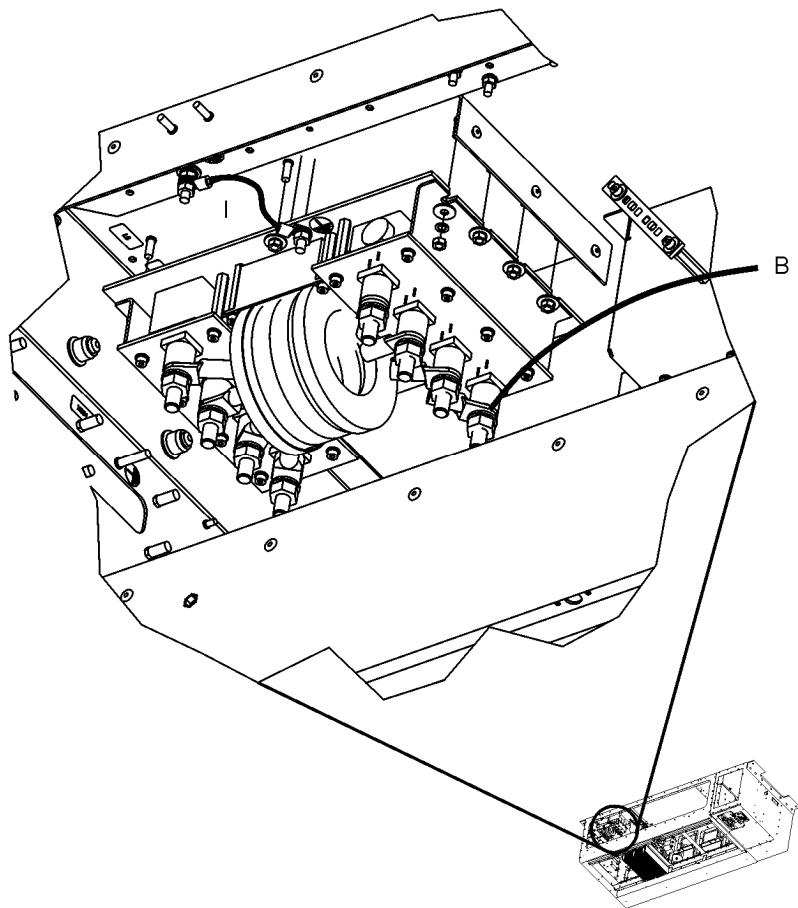

Figure 5-32: U326 Electrical Connections on A307
- b. Disconnect cable B (see Figure 5-32). A second cable passes through the U326 and connects to the A307 and fastened with an M10 nut, M10 Schnorr washer and M10 washer. Remove these fasteners and disconnect the cable.
- b. Connect cable B (see Figure 5-32). A second cable passes through the U326 and connects to the A307 and fastened with an M10 nut, M10 Schnorr washer and M10 washer. Thread this cable around the outside of the sensor, then through the sensor from back to front and then connect to the A307 as indicated. Affix the fasteners to connect the cable.